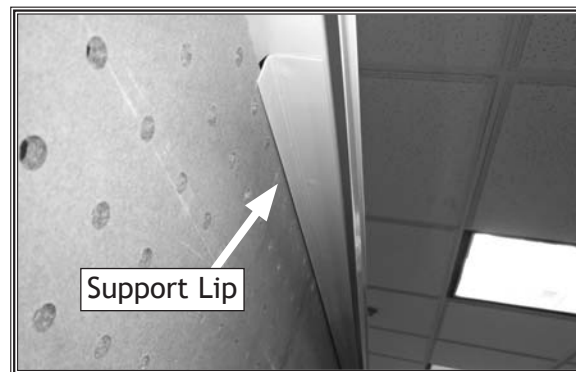

Figure 13. Pegboard resting against top support beam lip.
4. Align the top of the first pegboard (white side up) with the supporting lip of the top support beam, as shown in **Figure 13**.